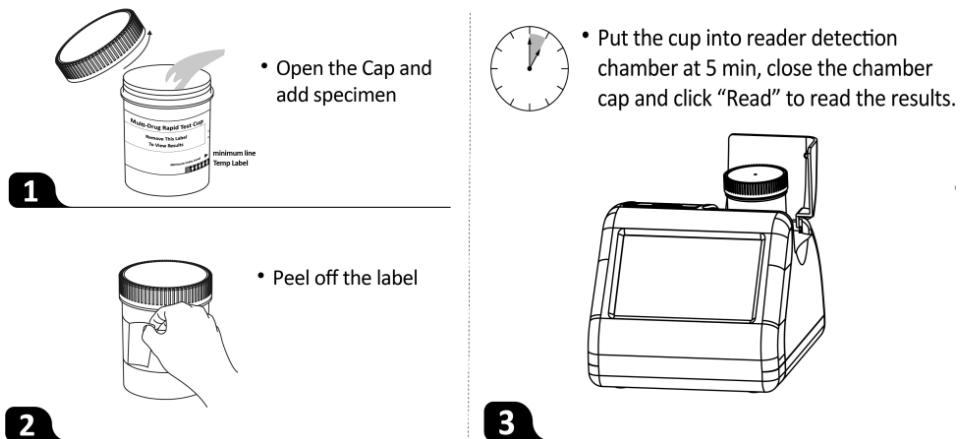

Fig 16 Operation of the urine cup
Step 2: Put the cup into reader detection chamber at 5 minutes and close the chamber cap, as shown in Fig 16.